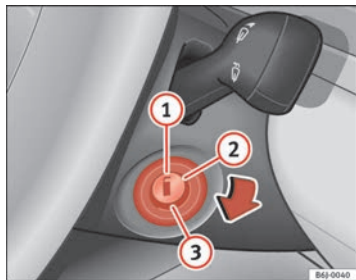

Fig. 94 Ignition key positions
In this position ⇒ fig. 94 the ignition and the engine are OFF and the steering may get locked.
- Turn the ignition key to position ⇒ page 128, fig. 94 ②. The indication lamp  will light for engine pre-heating.
- When the warning lamp turns off, turn the key to position ③ to start the engine. Do not press the accelerator.
- Turn the ignition key to position ⇒ page 128, fig. 94 ①. ▶